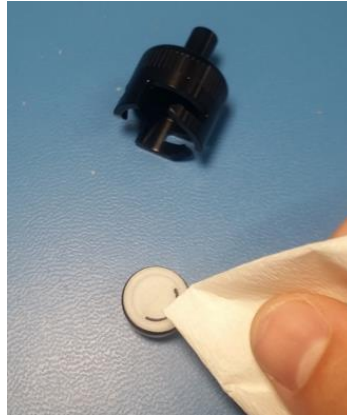

Figure 2 Cleaning Impactor plate
4. Apply a small amount of rubbing alcohol to a non-fibrous paper (such as a Kimwipe) and wipe off any visible dust or fibers collected on the white porous surface. See **Figure 2**.